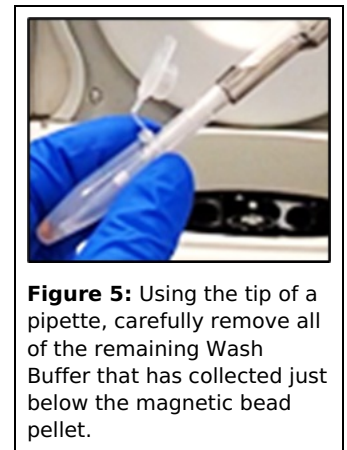

Figure 5: Using the tip of a pipette, carefully remove all of the remaining Wash Buffer that has collected just below the magnetic bead pellet.
9. Use a 20 μL pipette to remove the remaining Wash Buffer from the tubes (Figure 5).